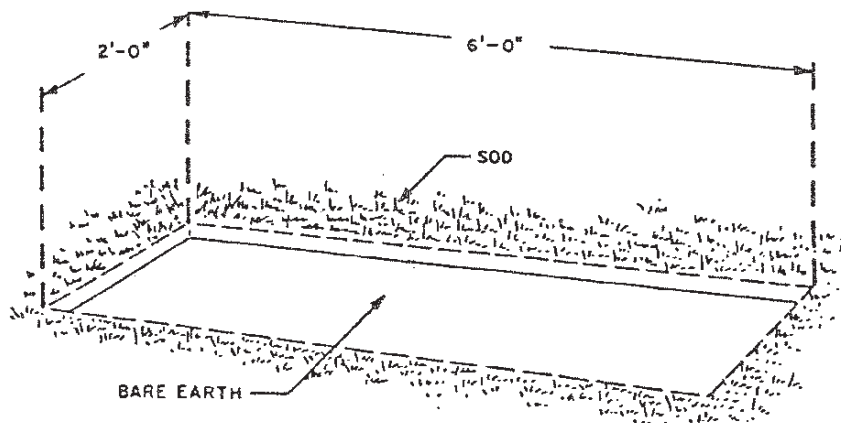

Figure 2-3
- a. After selecting the site and the position for the base plate, prepare the site by removing all vegetation and/or sod. This area should be slightly larger than the base plate assembly or 2 feet by 6 feet (.60 x 1.82 m). Refer to Figure 2-3.